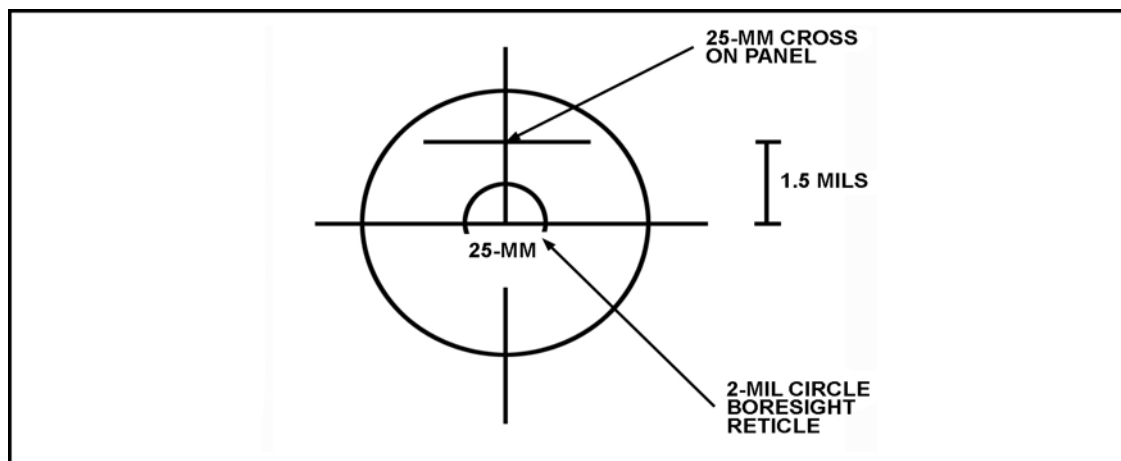

Figure B-52. Distance between aiming points.
- (4) Elevate the gun to align the ISU reticle with the ISU cross on the panel.
- (5) (Helper) note the aiming point of the boresight reticle.
- (6) Elevate the gun. Use the gun handwheel to elevate the gun until the bottom of the ISU reticle touches the top of the ISU cross on the panel.
- (7) Depress the gun to align the ISU reticle with the ISU cross on the panel.
- (8) (Helper) note the aiming point of the boresight reticle.
- (9) Measure backlash. Helper--
- (b) Use the 2-mil circle of the boresight reticle to estimate the distance (in mils) between aiming points observed in elevation and depression. The backlash measures 1.5 mils for the example shown in Figure B-52, page B-38.